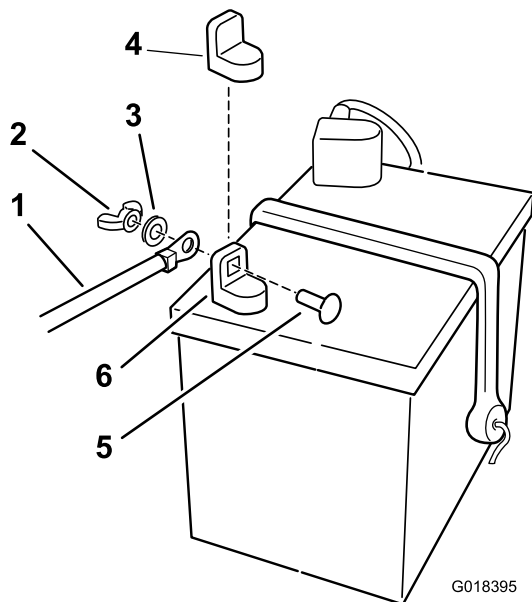

Figure 1
3. Remove the fasteners on the negative battery cable, and use them to secure the negative battery cable to the negative battery post (Figure 1).